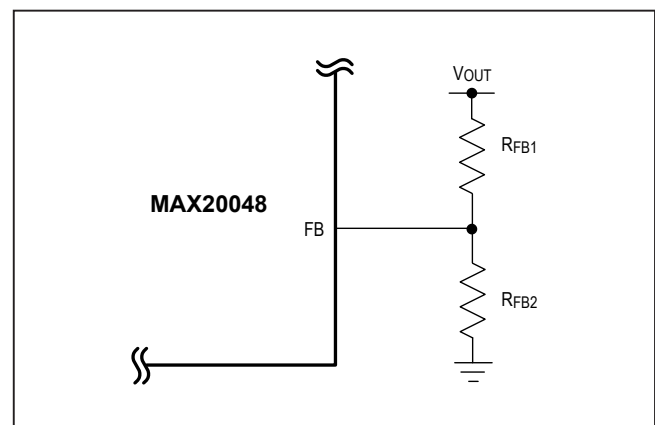

Figure 1. Setting the Output Voltage for the MAX20048
Connect FB to V_{CC} to enable the fixed output voltage (5V) set by a preset internal resistive voltage-divider connected between the feedback (FB) pin and AGND. To externally adjust the output voltage between 4V and 25V, connect a resistive divider from the output (OUT) to FB to AGND (Figure 1). Calculate R_{FB1} and R_{FB2} with the following equation: